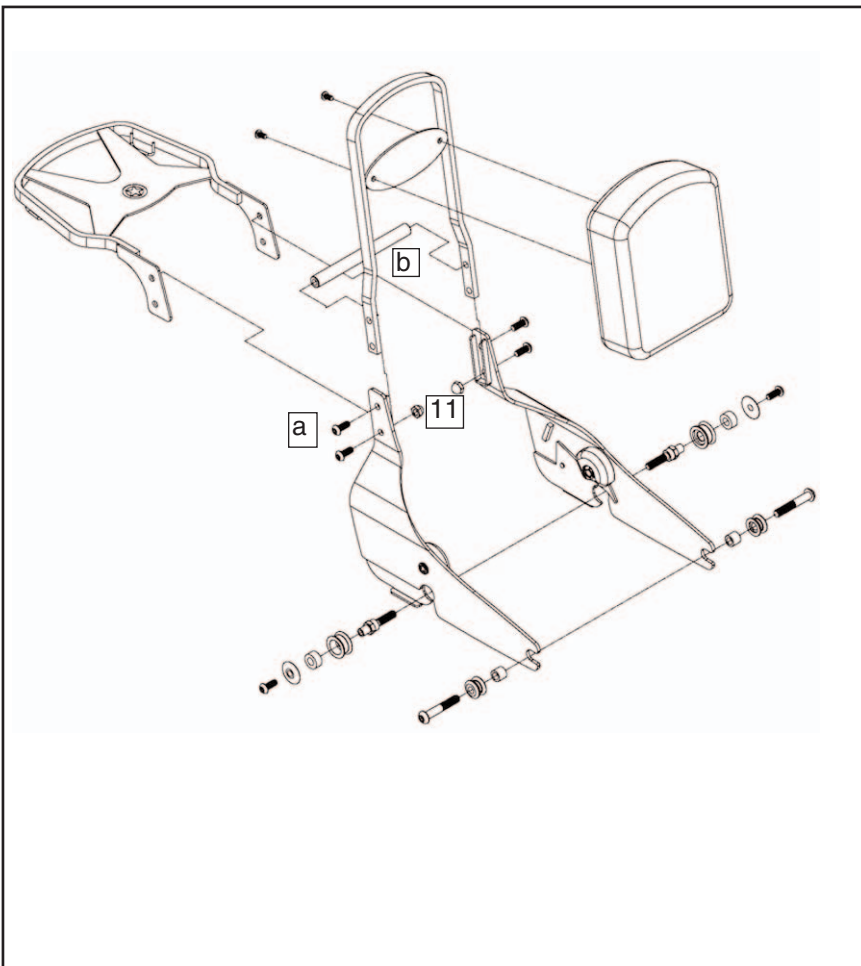

Figure 3
1. Assemble side plates (1) and (2) to the Paladin backrest alone or with the Paladin luggage rack. **(5mm Wrench and 13mm Box Wrench) Figure 3**
2. Use items (a) button head screw and (b) support stay (provided with the backrest kit) and item (11) cap nut (provided in this kit) to complete assembly of the side plates.